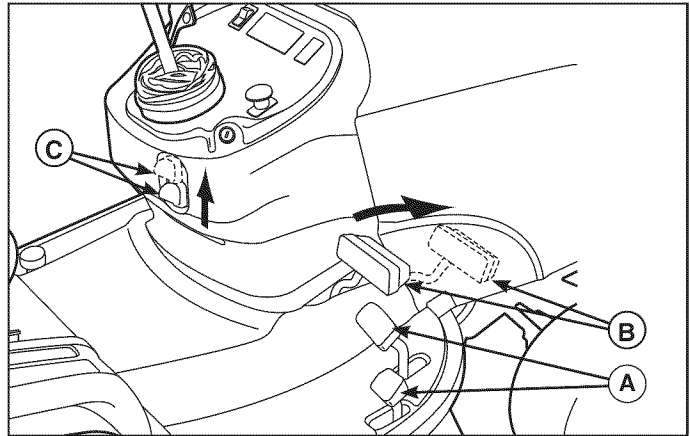

Figure 4
Applying the Parking Brake - See Figure 4. To lock the parking brake, release the ground speed pedals (A), fully depress the brake pedal (B), pull UP on the parking brake knob (C), and then release brake pedal.
Releasing the Parking Brake - See Figure 4. To release the parking brake, fully depress the brake pedal (B) and push the parking brake knob (C) DOWN.